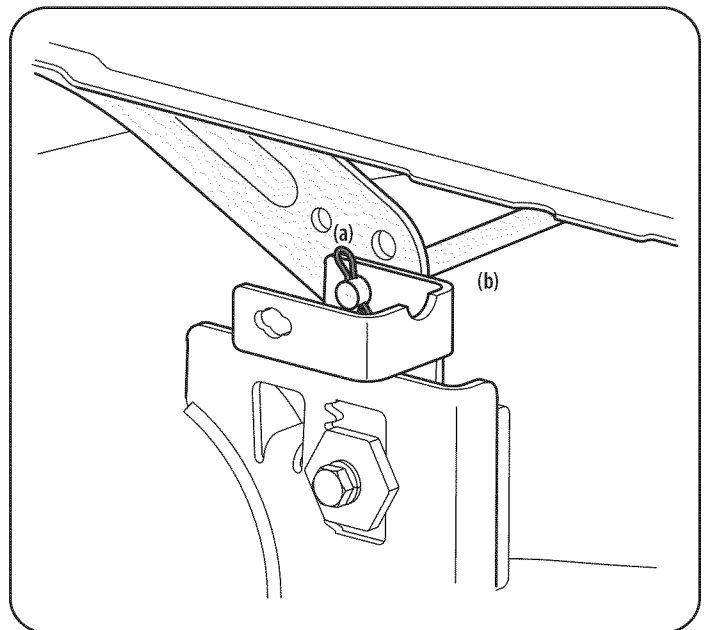

Figure 24
- Looking at the cutting deck from the left side of the tractor, locate the bow-tie pin (a) that secures the deck support rod (b) on the rear left side of the deck. See Figure 24. Remove the bow-tie pin (a) that secures the deck support rod (b), and carefully remove the deck support from the deck lift arm.